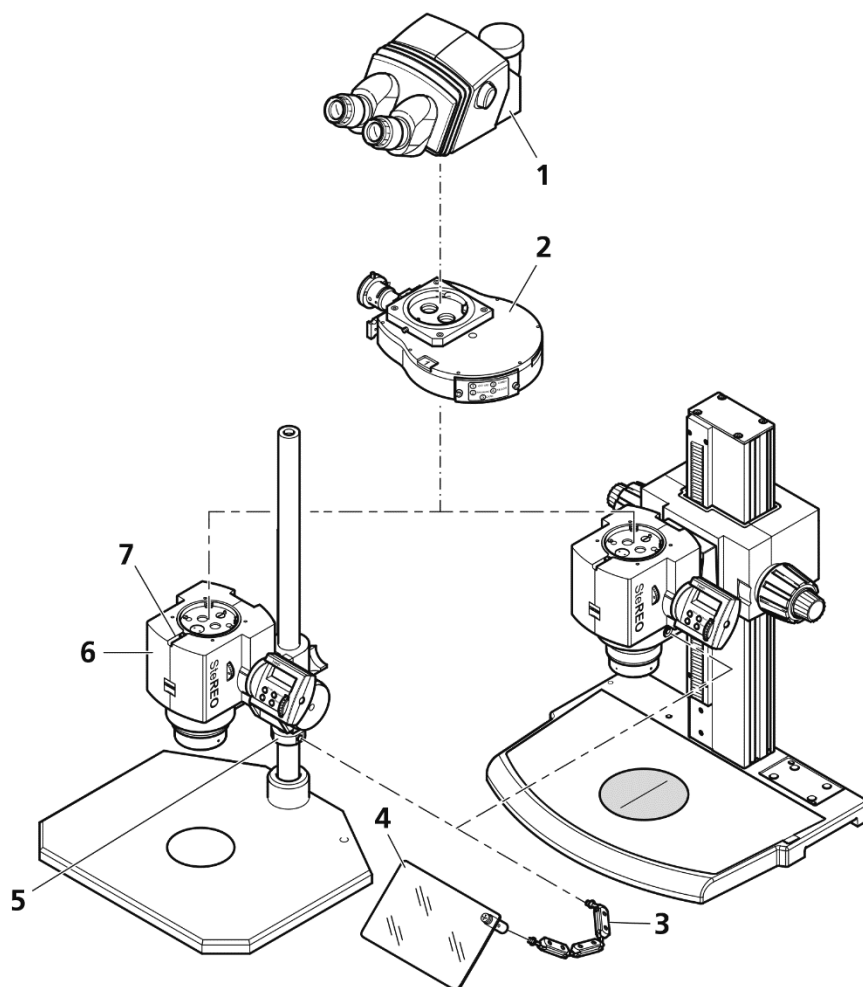

Fig. 15 Installation of PentaFluar S/X-Cite
- Loosen clamp screw (Fig. 15/7) using an SW 3 Allen key and remove the tube (Fig. 15/1). If attached, remove the intermediate tube in the same way.
- Depending on the chosen equipment, attach the PentaFluar S/X-Cite (Fig. 15/2) vertical illuminator to the microscope body (Fig. 15/6), align it (the connector for the illumination equipment should point to the left) and tighten the clamp screw (Fig. 15/7).
- Using the plugged through SW 3 ball-headed screwdriver, screw the support (Fig. 15/3) of the dazzle protector into the M8 tapped hole on the carrier of the microscope body.
- At the other side of the support (Fig. 15/3), screw on the dazzle protector (Fig. 15/4) and tighten it with the SW 3 ball-headed screwdriver plugged through.
When using the dazzle protector on column stands, before installing the Stemi mount, first slip the clamping ring (Fig. 15/5) for the dazzle protector over the column and fix it by means of its clamp screw. The clamping ring has two M8 tapped holes, into which you may optionally screw in the support of the dazzle protector.